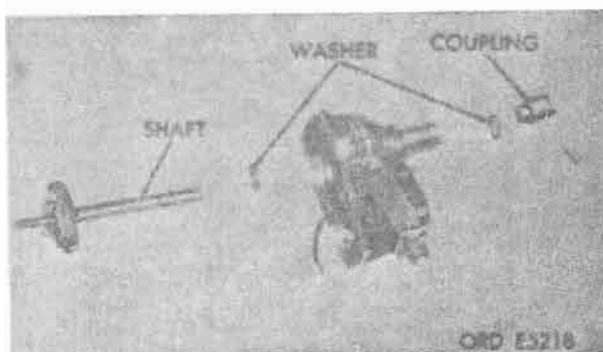
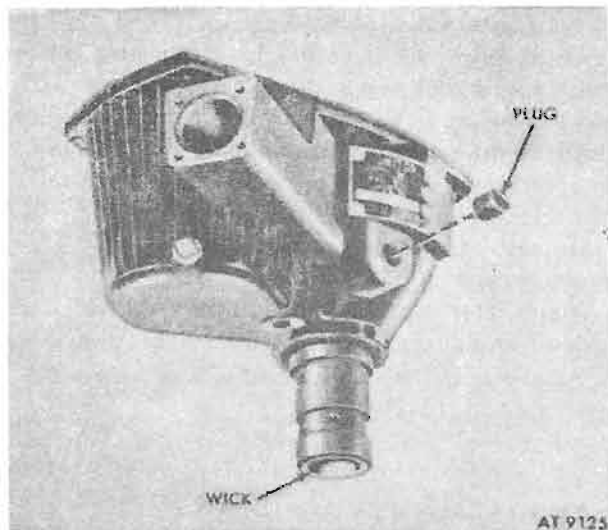

Figure 6-4. Distributor shaft removal.
Figure 6-8. Lubrication wick.
governor assembly out of housing. Remove thrust washers (fig. 6-4).
h. Base and Shaft (fig. 6-4).
(1) Wipe shaft and inside of base with cloth dampened in mineral spirits paint thinner or drycleaning solvent. Do not soak. Dry immediately with clean dry compressed air.
(2) Inspect base for cracks or other damage. Make sure groove for cap O-ring gasket is smooth and clean.
(3) Remove plug (fig. 6-8) and inspect felt wick in base. Lubricate wick with oil (PL). Install wick and plug.
(4) Check rivets for looseness, cracks in tabs, and excessive wear in notches of spring tabs. Wear is indicated by shiny or unsymmetrical appearance. Discard shaft if any of these conditions exists.
(5) Support shaft on V-blocks and check runout at bearing surface. Runout must not exceed 0.0015 inch. Check wear. Shaft must not be worn to less than 0.497 inch.
(1) Install one washer on shaft and install shaft in housing (fig. 6-4).